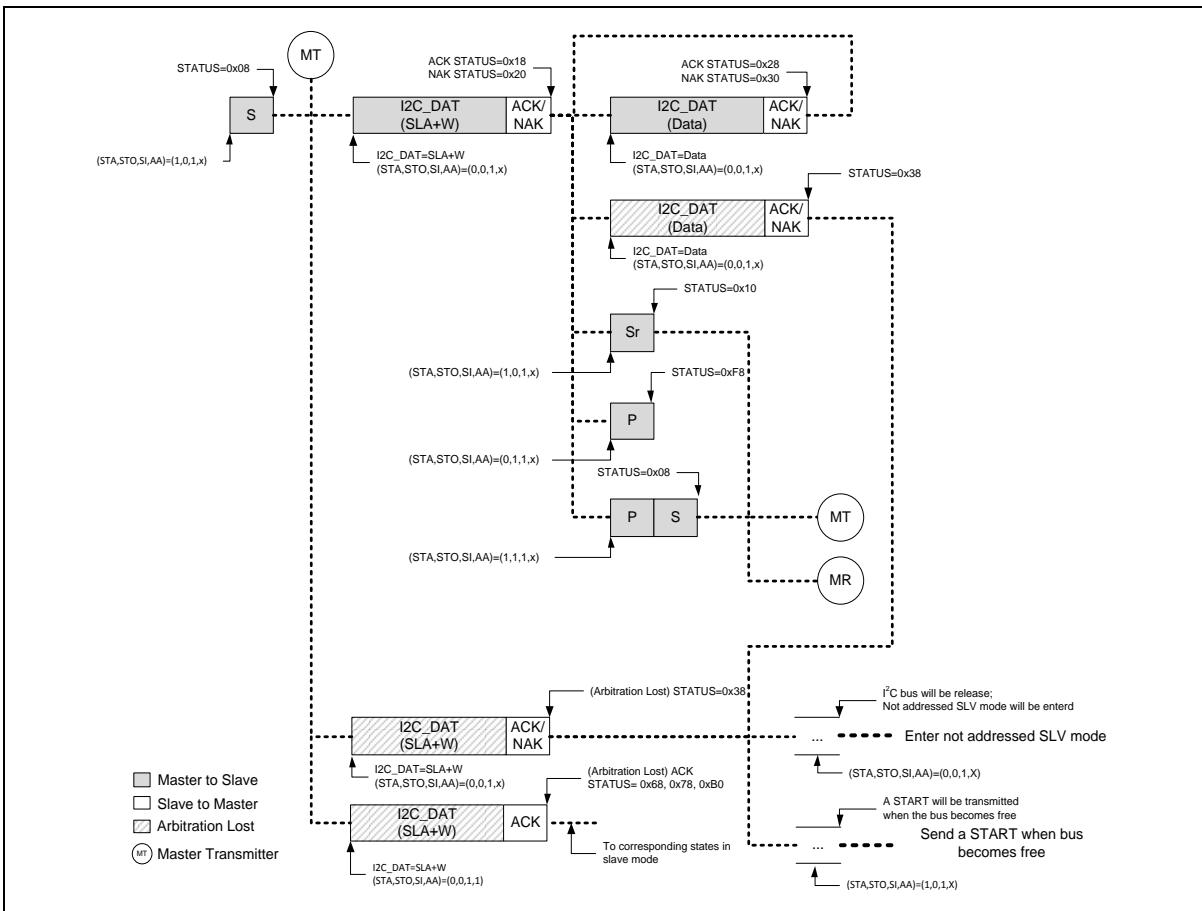
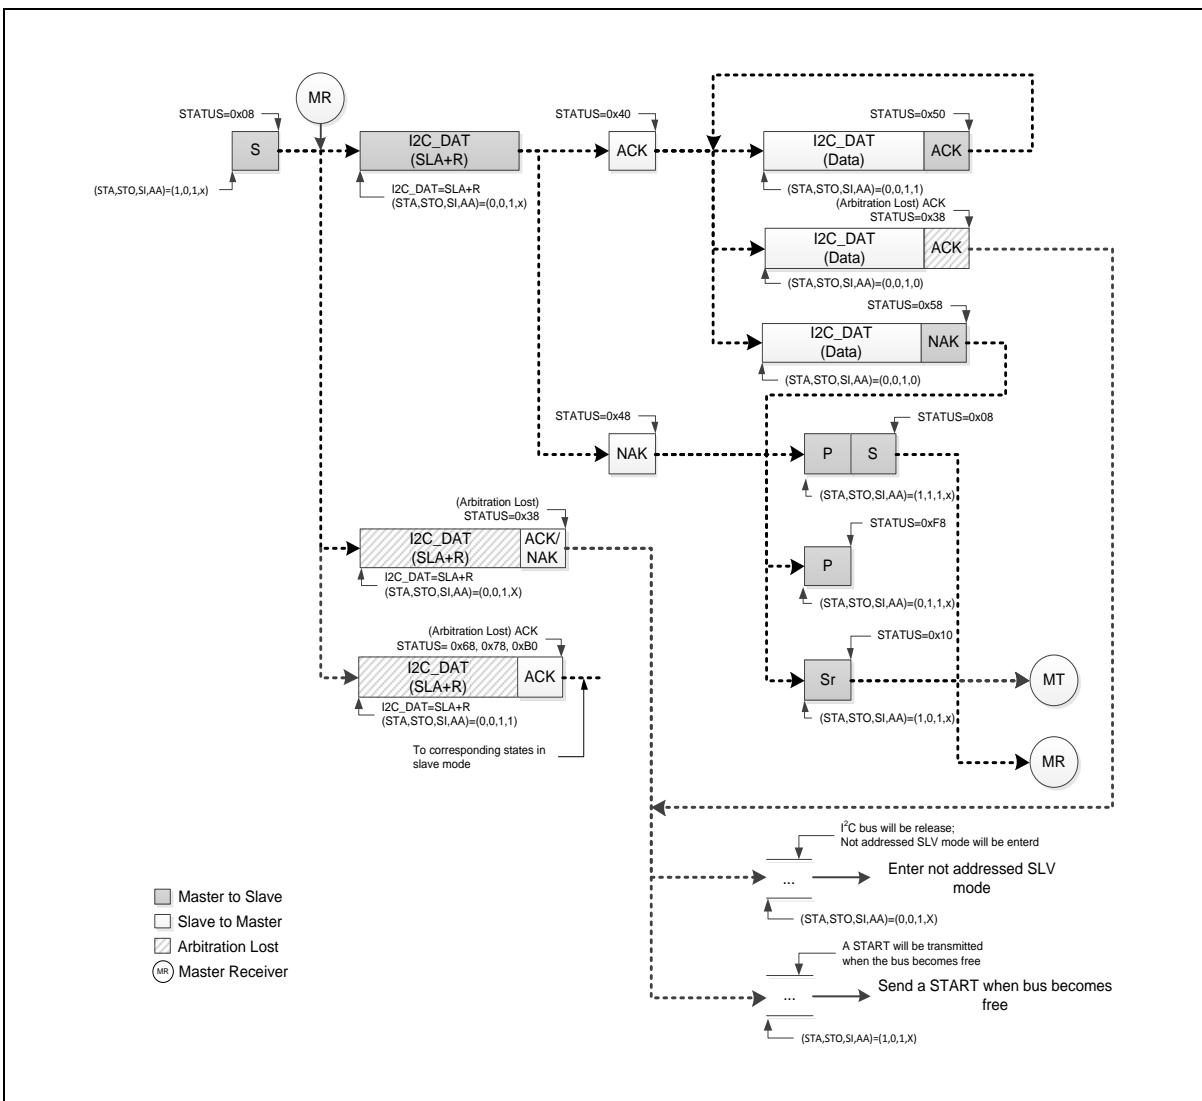

Figure 6.16-10 Master Transmitter Mode Control Flow
Figure 6.16-11 Master Receiver Mode Control Flow
In Figure 6.16-10 and Figure 6.16-11, all possible protocols for I²C master are shown. User needs to follow proper path of the flow to implement required I²C protocol.
(Figure 6.16-10) or Master receiver (MR) mode (Figure 6.16-11) after START signal has been sent successfully and new status code would be 0x08. Followed by START signal, user can send slave address, read/write bit, data and Repeat START, STOP to perform I²C protocol.